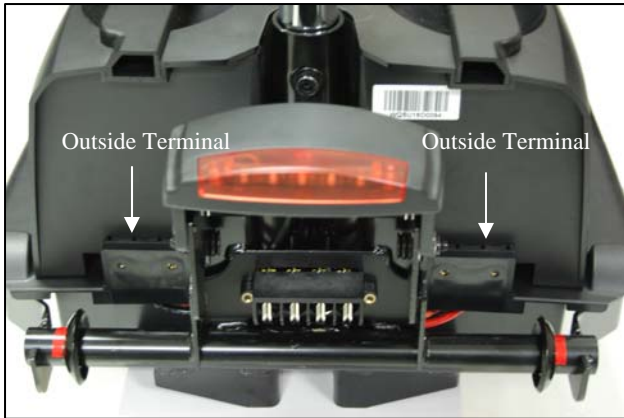
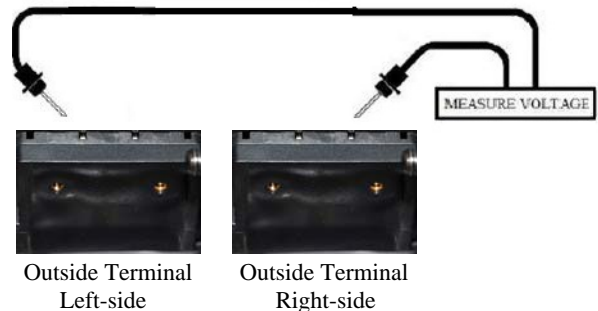

Figure 16. Connector 4
Figure 16a. Connector Close up
3. Measure voltage across the two outside terminals on the back-side of battery harness connector (4). **See figure 16 and figure 16a.**